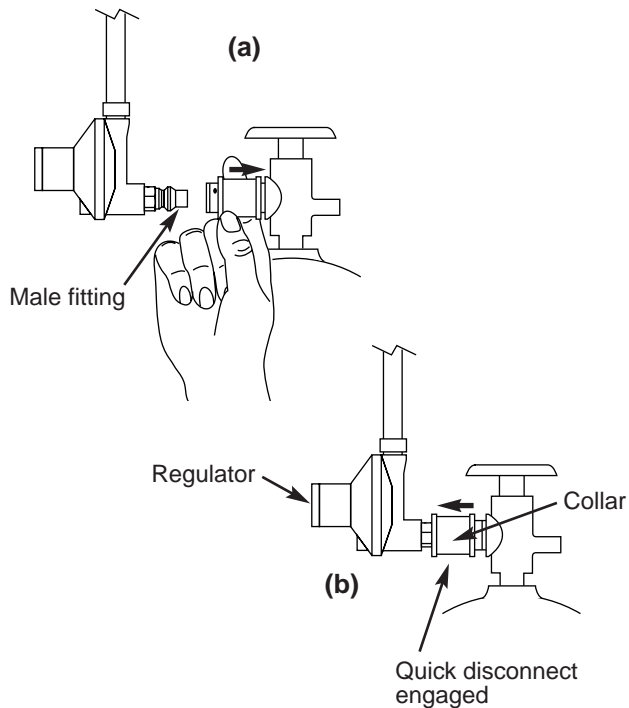

Figure 7
- c) Connect the hose to the tank. Route the hose so it does not interfere with the scale indicator rod. Slide back the collar of the quick disconnect on the tank valve. Figure 7 (a). Push the male fitting of the regulator into the quick disconnect, and maintain pressure. Slide the collar closed. Figure 7 (b). If it does not engage or lock, repeat procedure. Gas will not flow unless the quick disconnect is properly engaged.